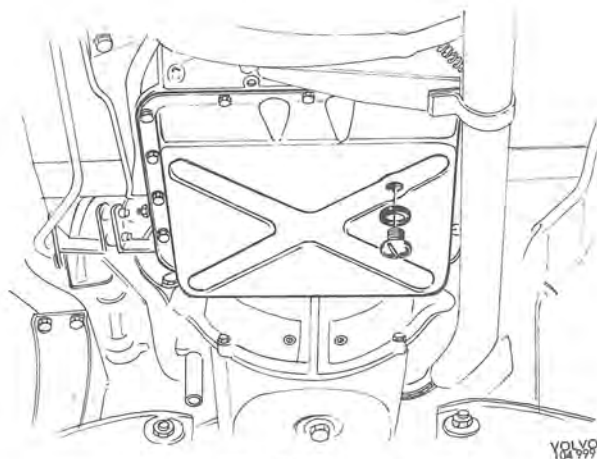

Fig. 4-75. Oil drain plug
1. Jack up and place props under the vehicle. Drain off the oil into a vessel which is absolutely clean. See Fig. 4-75.
2. Drain the oil into a clean container, see Fig. 4-75.